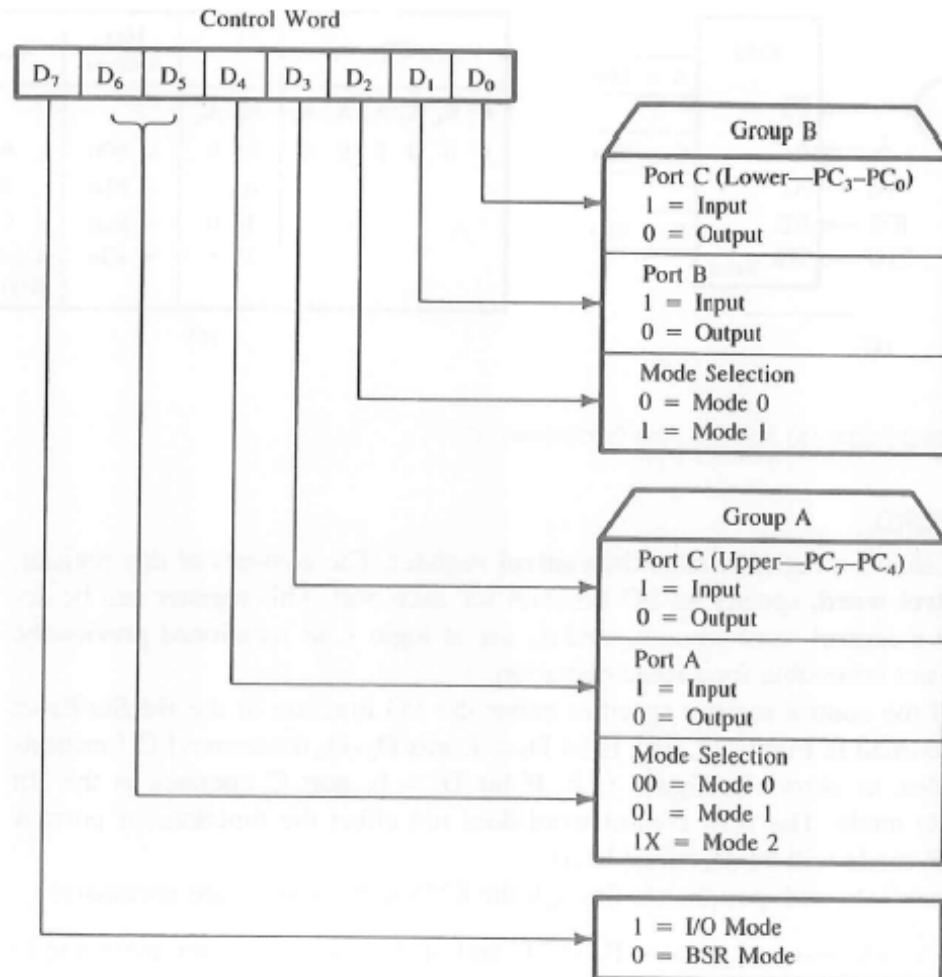

Figure 3.4 Control word format for I/O mode
- The figure 3.4 shows control word format for I/O mode.